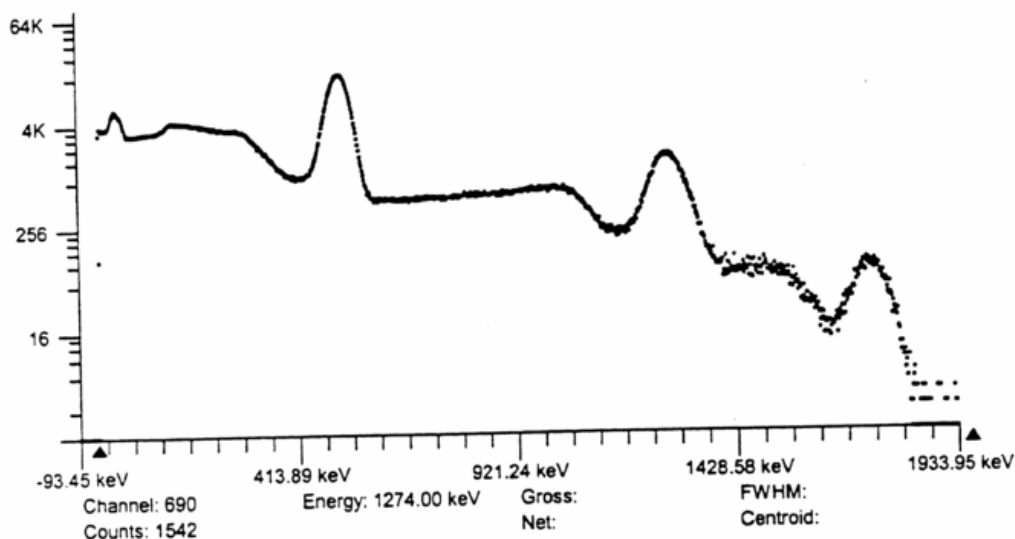

Figure 2 ( $^{22}\text{Na}$  Source)
8. Acquire data for approximately 5 minutes or until you see a “well-defined curve”. Stop collecting data by clicking on the red stop button at the upper-left side of the screen. Your spectrum should look like figure 2 below.